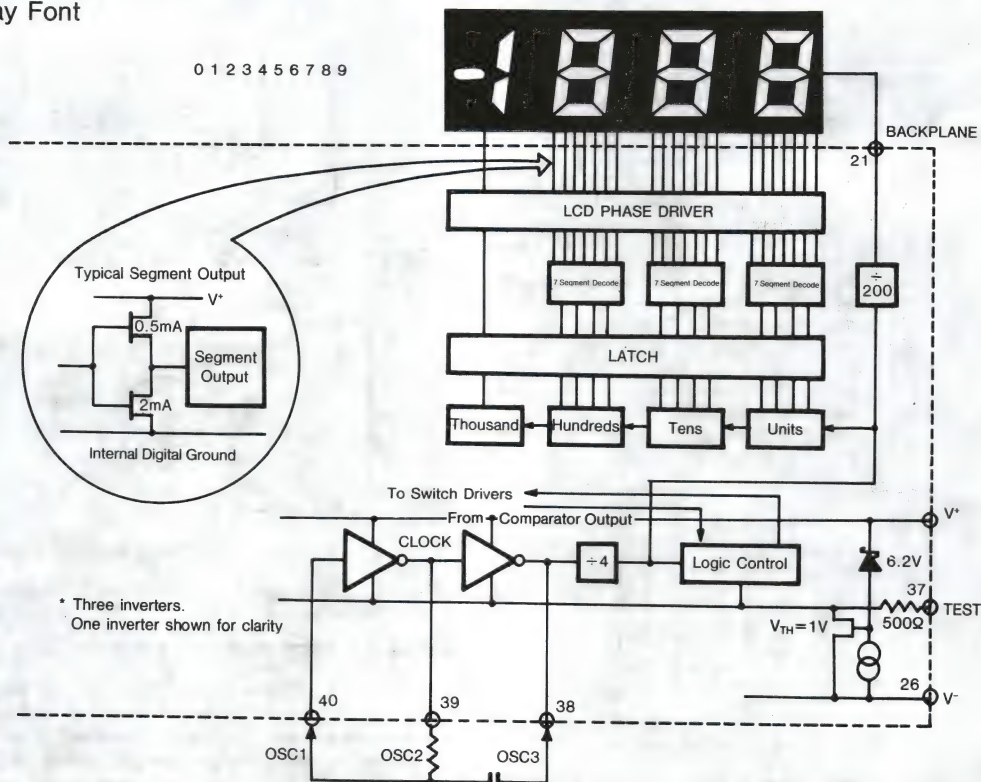

Figure 16. Digital Section
Figure 16 shows the digital section for the GM7136. An internal digital ground is generated from a 6V Zener diode and a large P channel source follower. This supply is made stiff to absorb the relatively large capacitive currents when the backplane (BP) voltage is switched. The BP frequency is the clock frequency divided by 800. For three readings/second this is a 60Hz square-wave with a nominal amplitude of 5V. The segments are driven at the same frequency and amplitude are in phase with BP when OFF, but out of phase when ON. In all cases negligible DC voltage exists across the segments. The polarity indication is "ON" for negative analog inputs. If IN LO and IN HI are reversed, this indication can be reversed also, if desired.